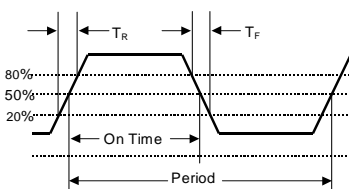
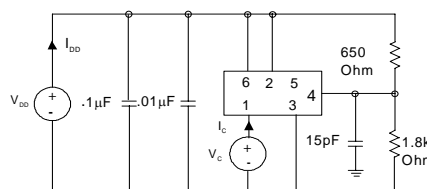

Figure 1. Output Waveform
Figure 2. Output Test Conditions (25 \pm 5°C) for 5 volt devices, 15pF cap only for 3.3V.
2. Figure 1 defines these parameters. Figure 2 illustrates the load used to test devices.